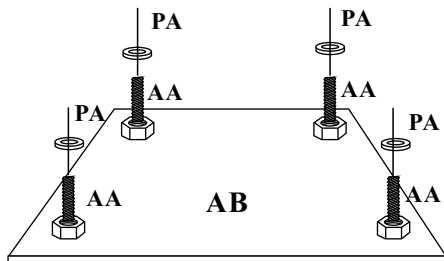

FIGURE 1A
- A. Slide a 5/8" Flat Washer (PA) over each of the J-Bolts (AA) in the corners of the J-Bolt Template (AB) as shown in FIGURE 1A.
- B. Slide a 5/8 Flat Washer (PB) over each of the J-Bolts(AA).